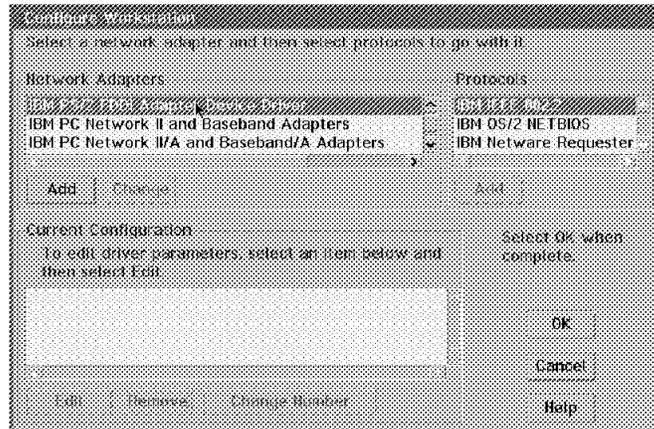

Figure 75. Configuring your FDDI Adapter for SNA
- Step 5. The panel shown in Figure 75 on page 137 appears.